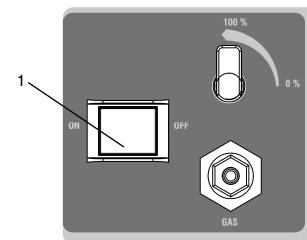

Fig. 4.1.1
**CAUTION!** All the functions and settings described below are MANDATORY. They must be carried out with the machine powered (main switch ref. 1 in fig. 4.1.1. in the ON position) and the board off. The board on key light is blue and the display shows the HW version and FW version.